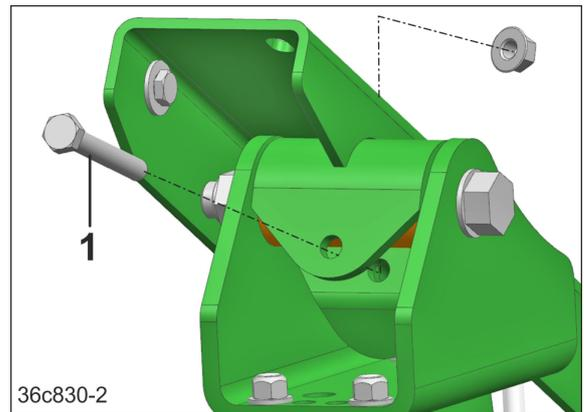

Fig. 101
10. Remove the locking bolts (Fig. 101/1).